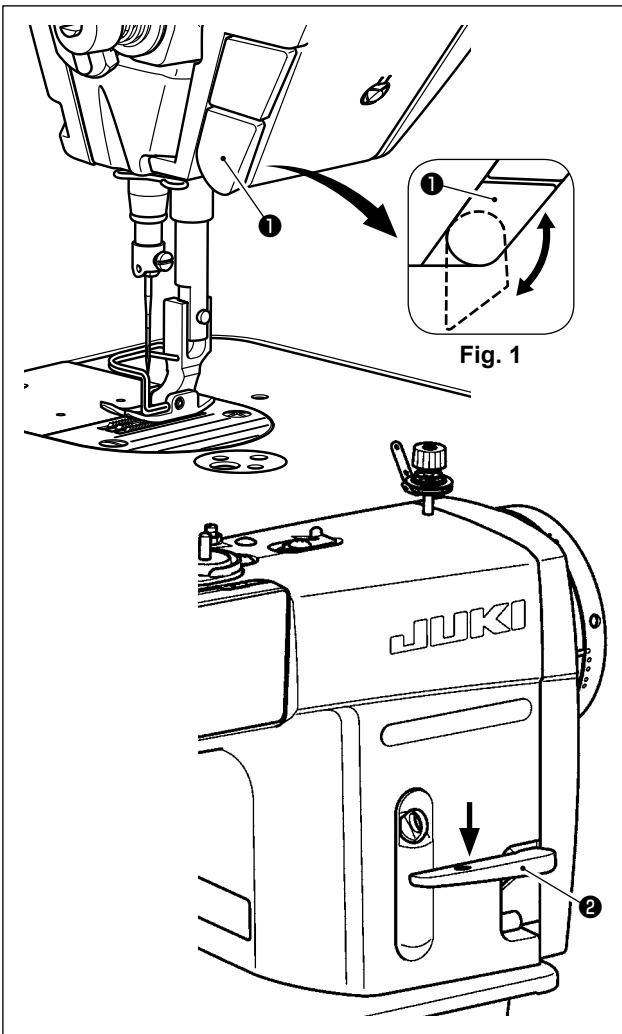

Fig. 1
One-touch type reverse feed switch ① can be used at two different positions by turning it. (Fig. 1)